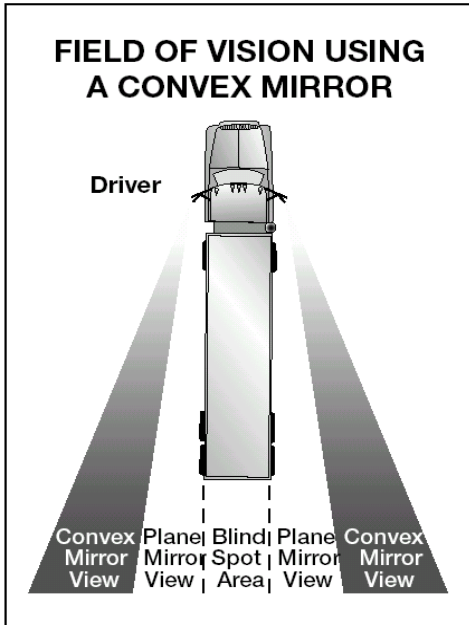

Figure 2.7
- Many large vehicles have curved (convex, "fisheye," "spot," "bugeye") mirrors that show a wider area than flat mirrors. This is often helpful. But everything appears smaller in a convex mirror than it would if you were looking at it directly. Things also seem farther away than they really are. It's important to realize this and to allow for it. Figure 2.7 shows the field of vision using a convex mirror.